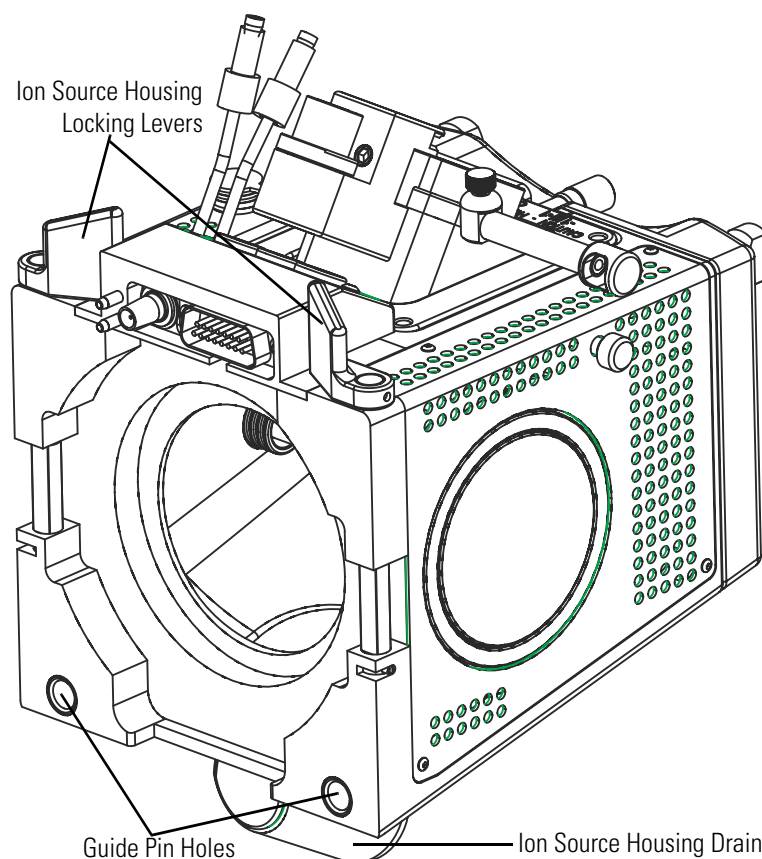

Figure 8-7. Rear view of the Ion Max API source housing
1. Carefully align the two guide pin holes on the rear of the ion source housing with the guide pins of the ion source housing on the mass spectrometer. Carefully press the ion source housing onto the ion source mount. See Figure 8-7 and Figure 8-8.